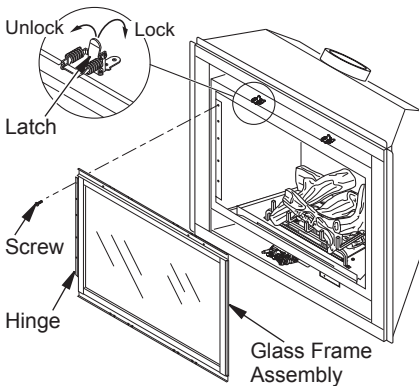

Figure 41 - Removing/Replacing Glass Door
2. Lift up on latches to unlock. There are two on top of firebox and two below firebox that hold glass door in place (see Figure 41).
3. While holding glass door to prevent it from falling and causing injury, remove 5 screws from hinge located on left side of door frame assembly (see Figure 41, page 27).
5. Close glass door frame. Lock latches by placing bar under tab on door and pushing down and back on latch (see Figure 41).
7. Replace louvers by reversing procedure under Removing Louver Panels, page 26 for (V)VC36 series.
8. Replace screen door assembly, see removing screen door assembly, page 26, for (V) VCC36 series.